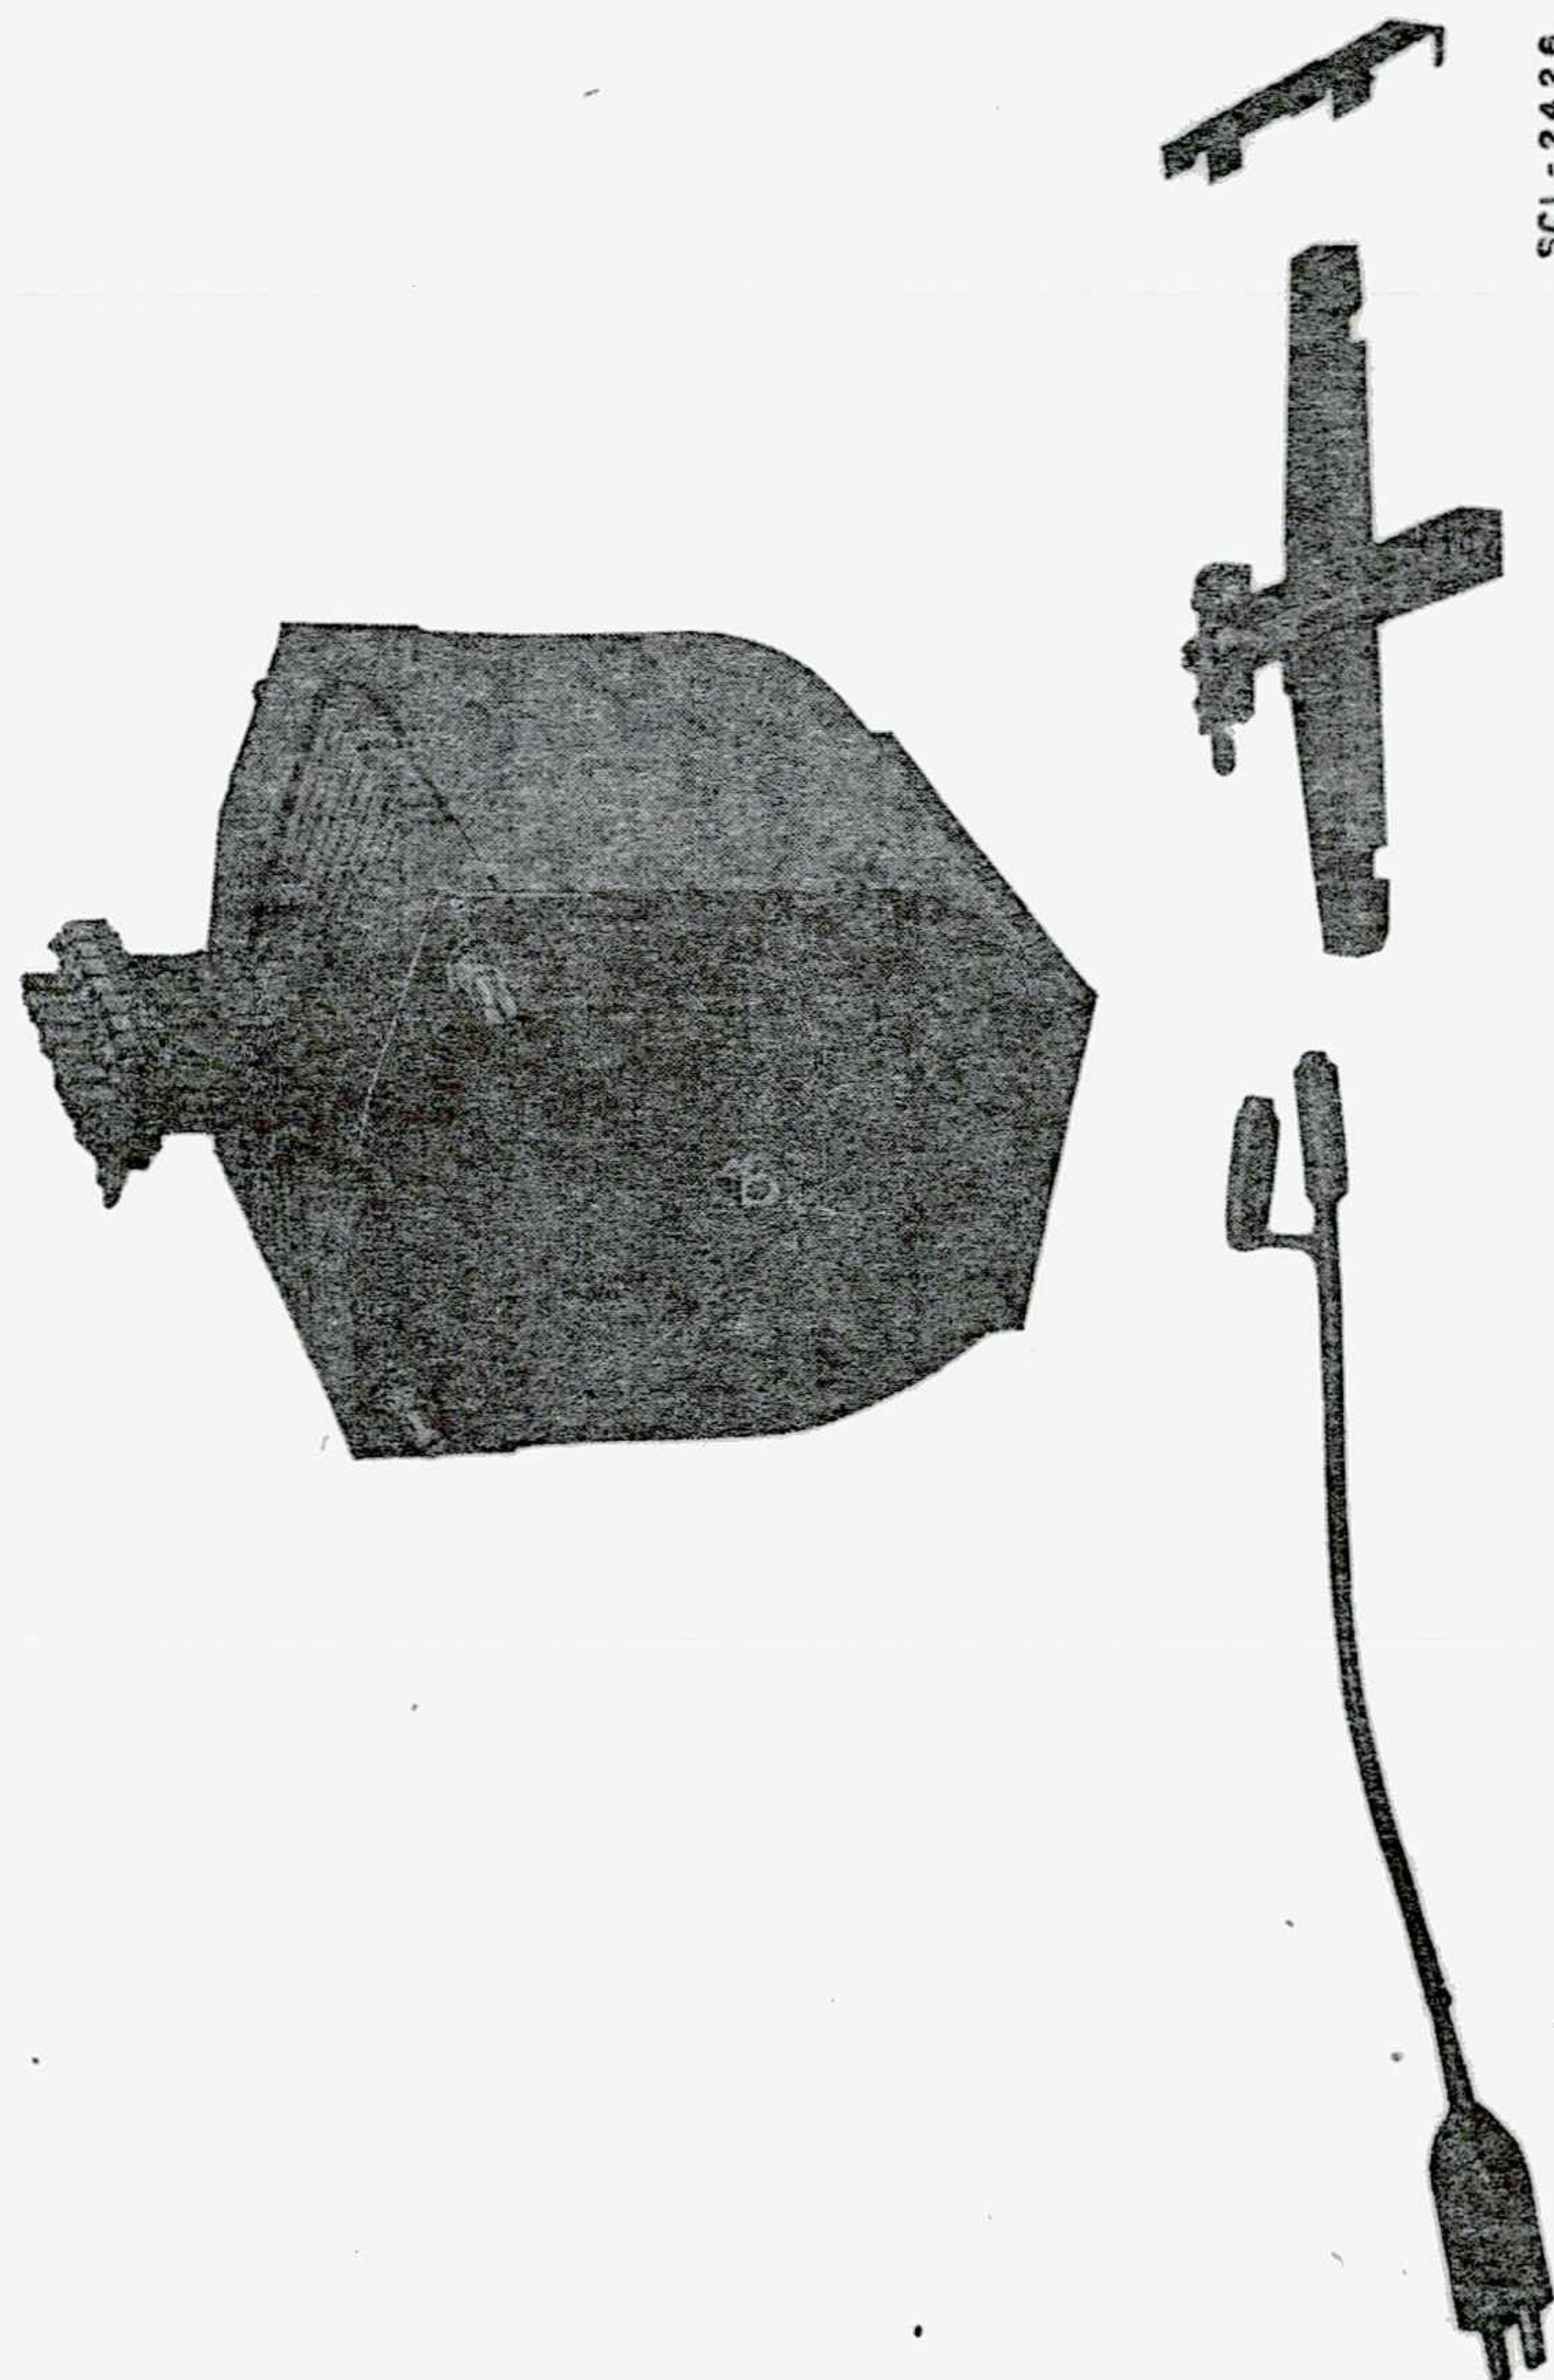

Figure 4.—Galvanometer magnet assembly, Cord CD-475, and Oscillograph Unit M-166-A.
(2) Oscillograph Units M-166-A (fig. 4) are designed to fit into the galvanometer magnet of Oscillograph Equipment IE-14-(*). Eight are in use and eight are stored in a box mounted on the left end of the table top. Electrical connection to Oscillograph Equipment IE-14-(*), is made with Cords CD-475.